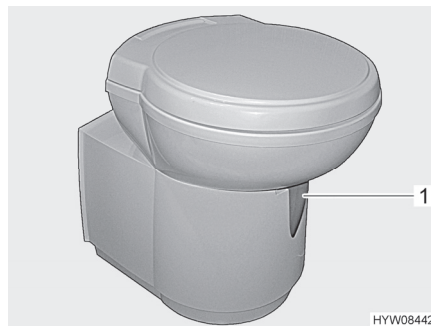

Fig. 198 Thetford toilet bowl (swivelling)
- Before flushing open the sliding trap of the Thetford toilet. To do this, push the slide lever (Fig. 198,1) in an anticlockwise direction.